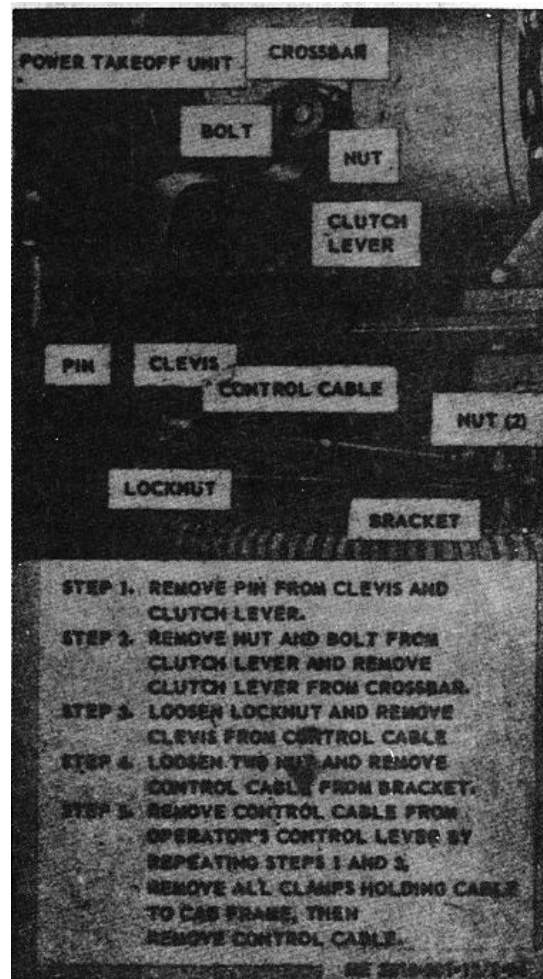

Figure 3-81. Clutch lever and linkage, removal and installation.
a. Removal and Installation. Refer to figure 3-81 and remove clutch lever and linkage. Install in reverse order.
(1) Clean all parts in an approved cleaning solvent and dry thoroughly.
(2) Visually inspect all parts for excessive wear, burs, stripped threads, or other damage or defect.
(3) Repair by replacing a damaged or defective part, or defective mounting hardware